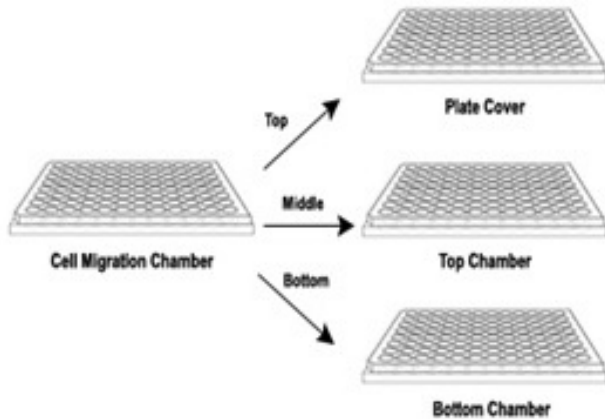

Figure 1. Cell Migration plate: The cells are added to the Top Chamber and the Control Migration Inducer or chemoattractants are added to the Bottom Chamber.
6. Under sterile conditions, disassemble the Cell Migration Chamber (96 x 5 μ m) (Figure 1) and carefully remove the plate cover and the top chamber.